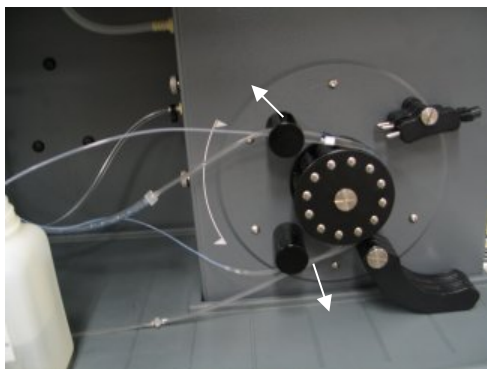

Figure 1 Peristaltic pump with pressure bars pushed up and resting bar freely down, allowing tubing to be loosened
- a Push up the pressure bar screws. This releases them from the resting bar (refer to Figure 1).